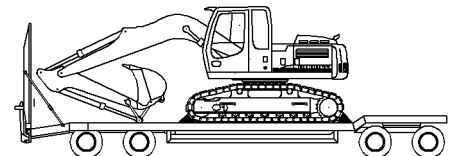

Fig. 3-128 Transport position - machine
- ▶ Rotate the upper carriage carefully 180° (direction of travel over leading wheel) and lower the equipment (siehe Fig. 3-128).